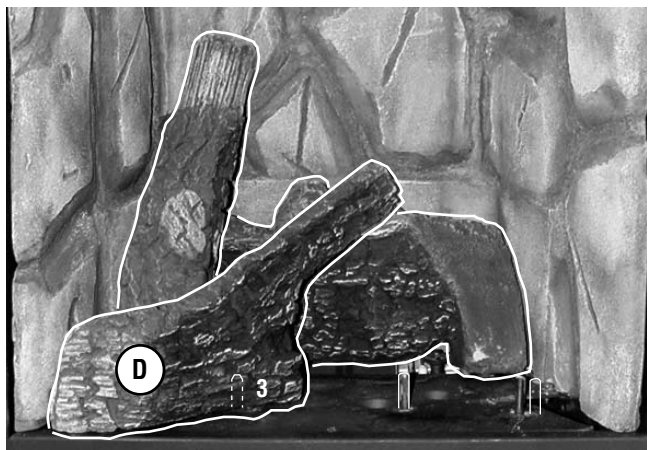

Figure 44 - Install Left Front Log (D)
3. **Place the left front log (D) as shown in Figure 44.** Position the hole on the bottom of log D over pin# 3.